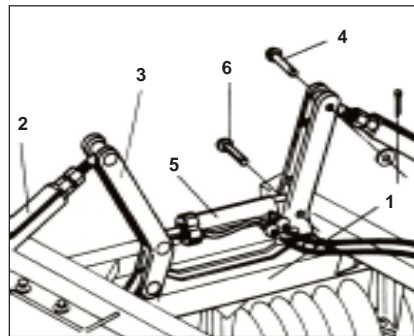

FIGURE 11
JOINT PISTON ASSEMBLY (FIGURE 11)
21 - Place the joint bar support item 3 **FIGURE 11**, in center frame support item 1, put the joint bar item 2 (with the side of the adjustment spindle on the bar bracket item 3). Through pin item 4, place the other end of the articulation bar in the side frame support. Enter the pivot piston item 5 in the joint bar support item 3 and secure it with the pin item 6.